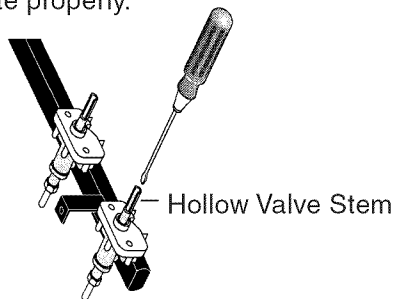

Figure 19
- Adjust the "LO" or "SIMMER" Setting of Surface Burner Valves (see Figure 19)